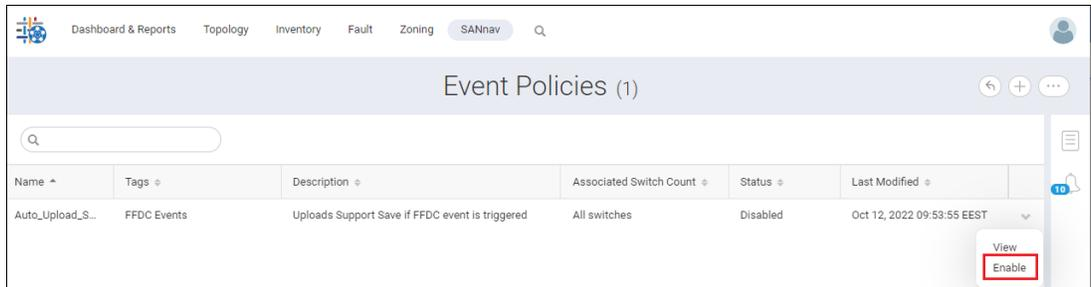

Figure 5-173 Enabling an event policy
- a. Click the drop-down icon next to the default event policy, and then select **Enable** from the available options. The default event policy is enabled (Figure 5-173).